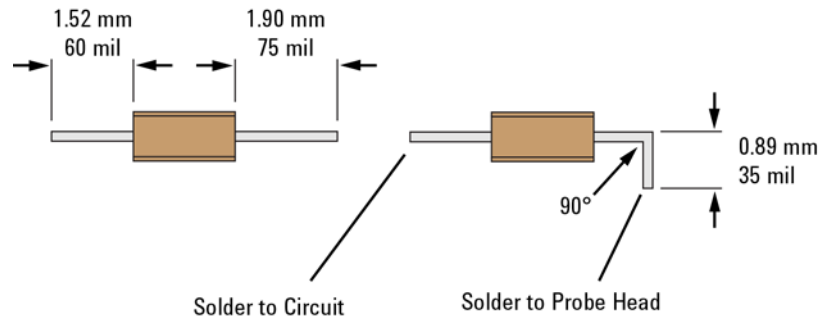
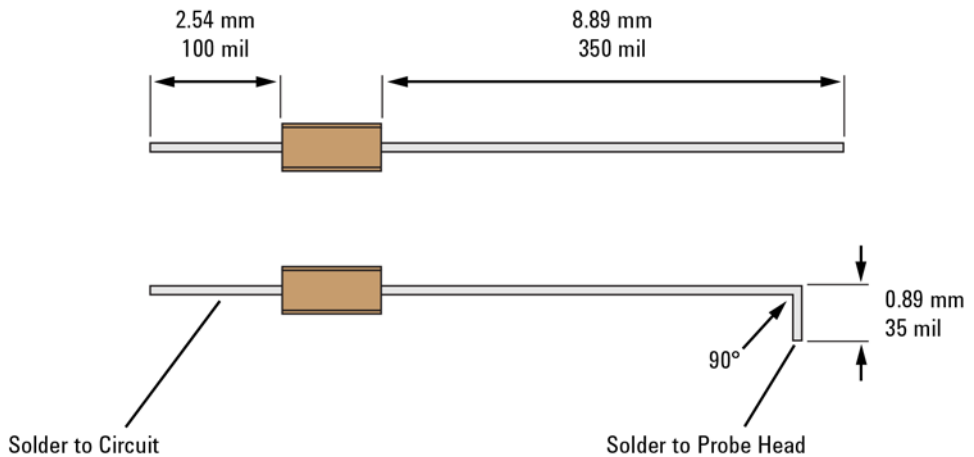

Figure 84 91 Ω and 0 Ω Combination Resistor Trim Dimensions
Figure 85 150 Ω and 0 Ω Combination Resistor Trim Dimensions
- 9 Using another pair of tweezers, bend the 1.90 mm or 8.89 mm lead 90° as shown in Figure 84 and Figure 85.